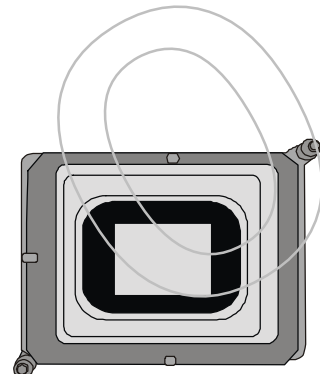

Fig. 1.3
3. Attaching DMD chip into DMD chip holder tied. (as shown on above Fig. 1.3)